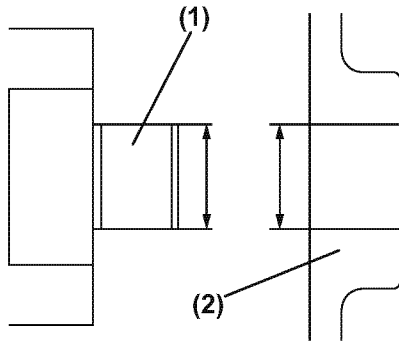

Figure 9-20
Inspect the rotor shaft clearance. Measure the outside diameter of the rotor shaft (Figure 9-20, (1)) and the inside diameter of the cover.